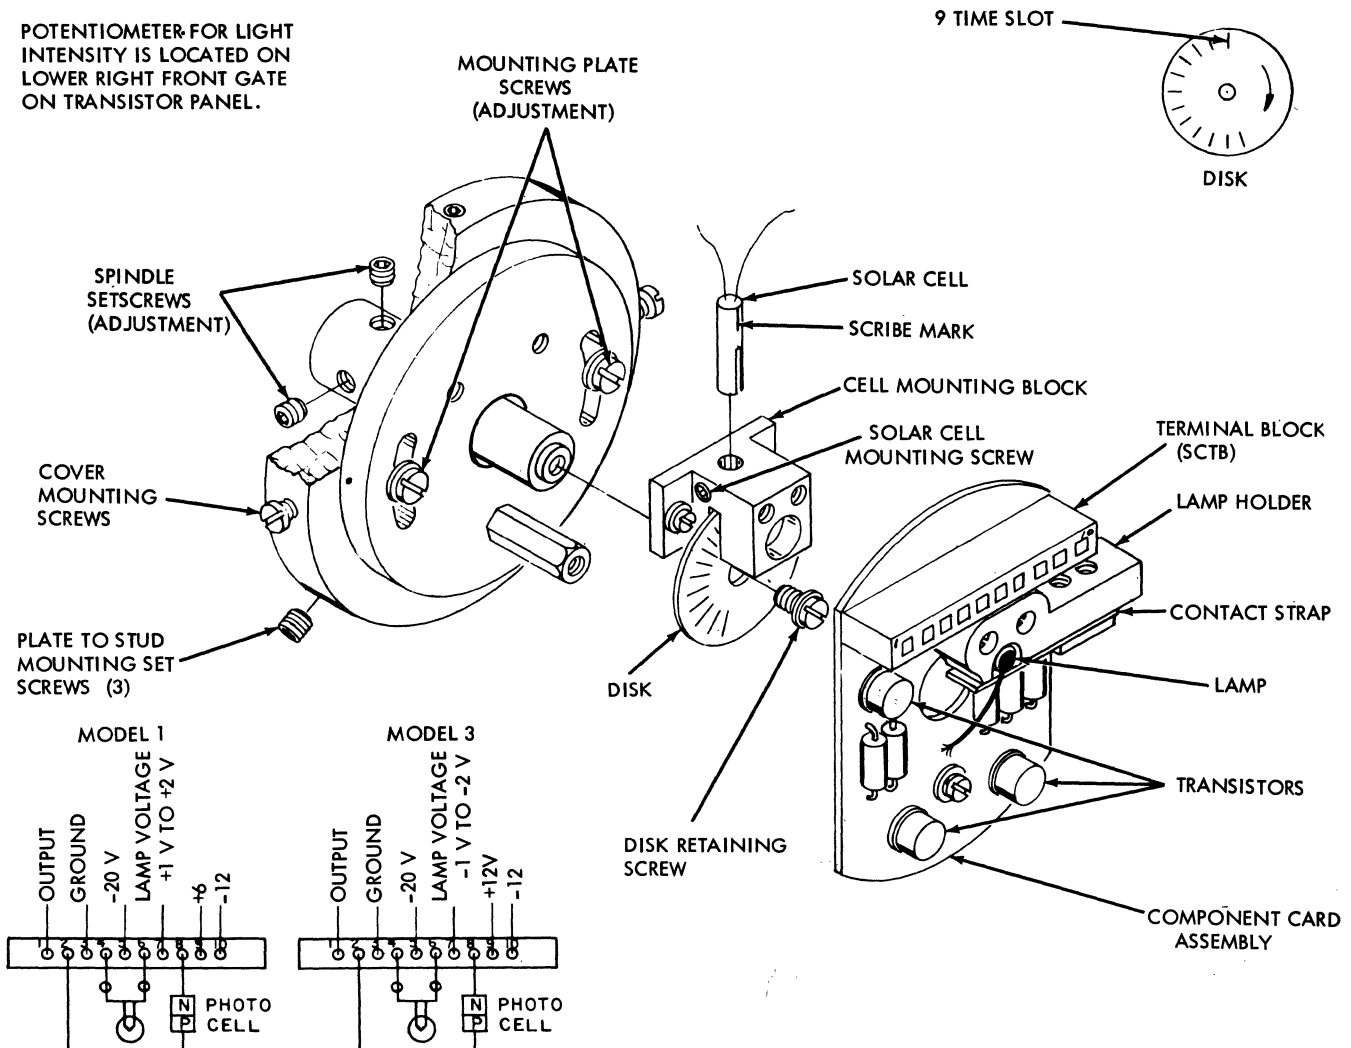

Figure 3-44. Solar Cell Adjustments
1. Control voltages from external supplies should be checked on SCTB 5, 6, 9 and 10. See Figure 3-44.
necessary by loosening set screws and repositioning spindle on picker knife camshaft. Refer to Figure 3-44.
8. With power removed, and reader cranked to 9-time, a basic timing can be obtained by loosening disk retaining screw and rotating the disk until 9-time slot is opposite the light source. Refer to Figure 3-44.
9. To adjust the timing of the cell accurately, loosen the mounting plate screws (Figure 3-44) and rotate the mounting plate within the mounting slots. Check make and break time of CB pulses
2. Loosen two contact strap screws until lamp can be slid out of lamp holder. Unplug lamp lead from SCTB 6 and remove. Refer to Figure 3-44.
2. Loosen set screw and remove solar cell assembly. Unplug solar cell leads from SCTB 2 and SCTB 8. Refer to Figure 3-44.
3. Reinstall solar cell assembly by inserting cell into cell mounting block and leaving approximately $\frac{1}{4}$ " of the metal sleeve exposed above the cell mounting block. Position the scribed locating mark so that it points toward the light source. Refer to Figure 3-44.
4. Connect solar cell leads to meter. Check output by setting lamp terminal voltage at 1.8. At an index point, measure for a minimum of 150 μ a across the cell (see Step 7 in solar cell timing procedure). To avoid damaging cell, use care when tightening cell retaining set screw. Refer to Figure 3-44.